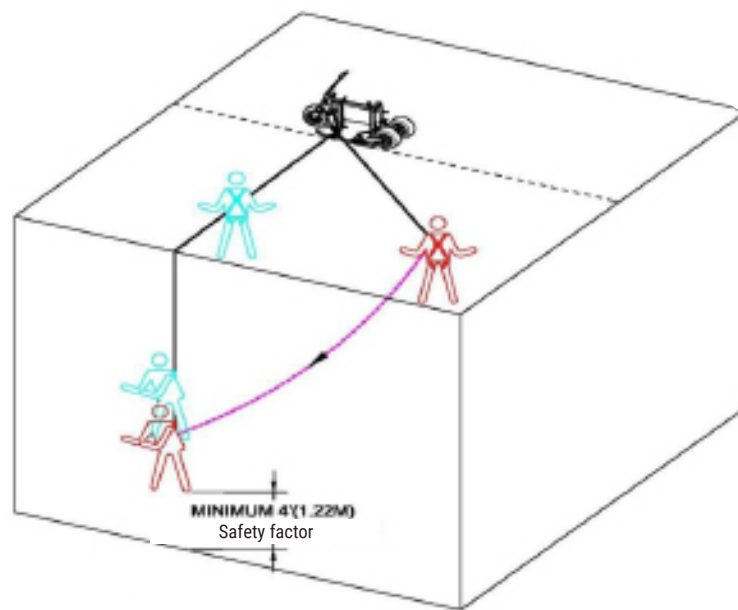

Fig. 4
9. Positioning on the roof. The HERCULES Mobile Anchoring System must be placed parallel to the edge of the roof at a minimum distance of 9 feet (2,75 meters) in such a way that the teeth on the yellow pivot arms are on the same side as the users when in fall protection mode. Once the HERCULES Mobile Anchoring System is in place, the wheels must be lifted with the use of the built-in jacks at each end of the machine. Once the wheels are off the ground and the HERCULES Mobile Anchoring System rests on the roof, the system is ready to use. The HERCULES Mobile Anchoring System must be placed vis-à-vis the workplace and it must be moved as required to in such a way to avoid a pendulum effect in case of a fall. (See fig. 4)